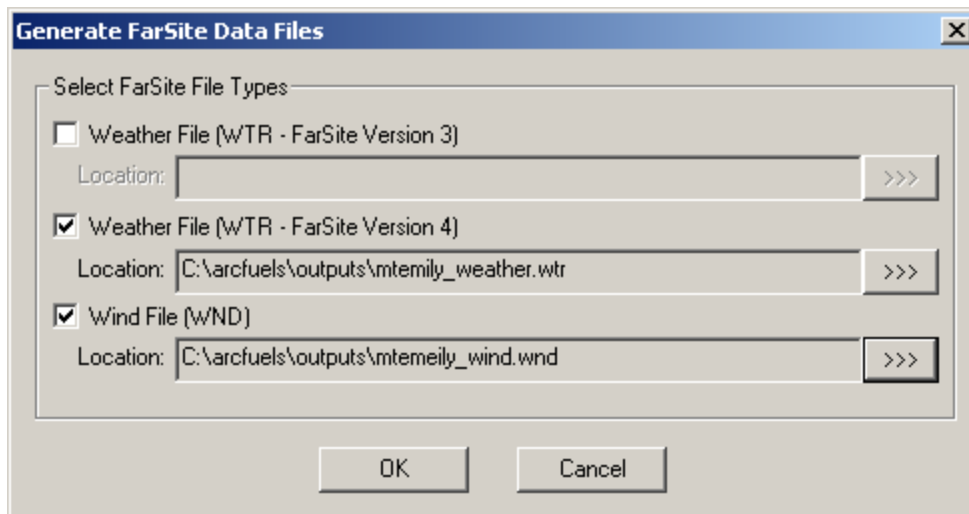

Figure 3-34—Generating FarSite Data Files form.
- 2) Open the **Generate FarSite Data Files** form (**FFP menu bar**→**Weather**→**Hourly Data Analysis**→**FarSite Exports**, fig. 3-34).